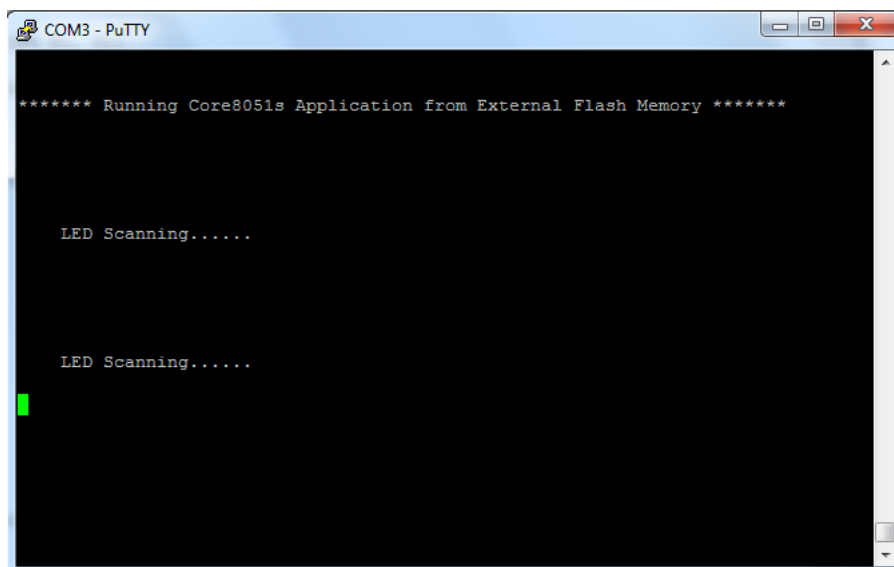

Figure 22 • Application Running From External Flash Memory
11. Start **PuTTY** (with settings 57600 baud rate, 8 data bits, and No parity), and choose **Resume** from the **Run** menu. The LEDs are scanned on the Cortex-M1-enabled ProASIC3L Development Kit in the forward and reverse direction. The messages are displayed as shown in Figure 22.